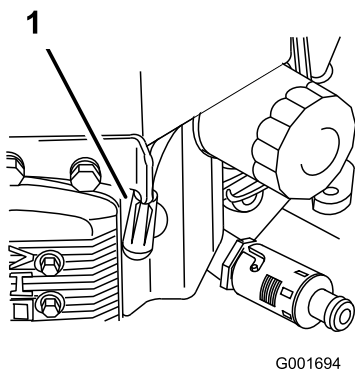

Figure 39
3. Disconnect the wires from the spark plugs (Figure 39).